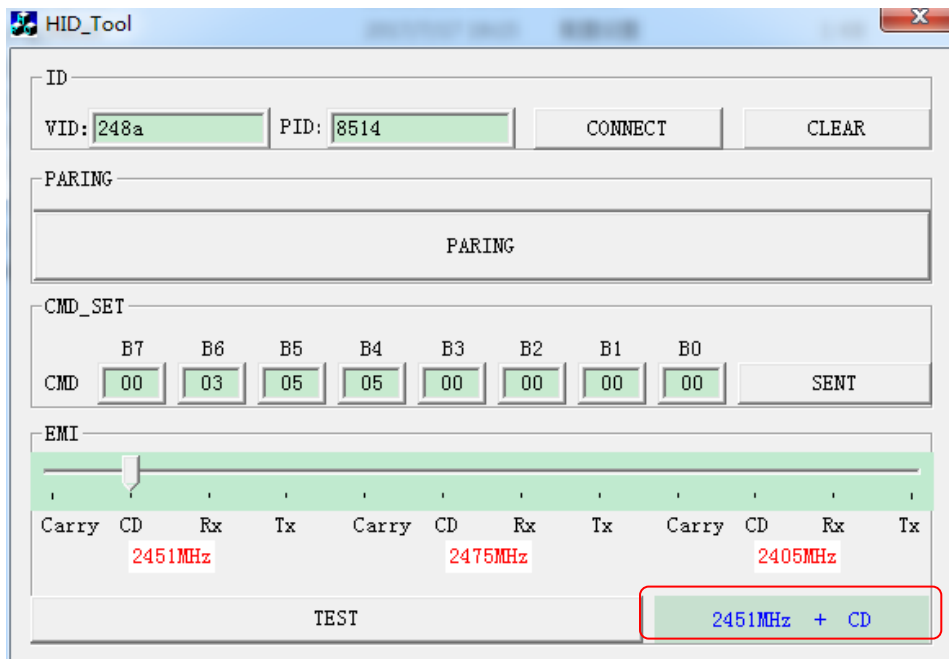

Figure 4- 2 Current test mode and frequency point indication
As shown in Figure 4- 2, current test mode and frequency point are “CD” and “2451MHz”, respectively.
- 5) After the frequency point and test mode are selected, click the “TEST” button to start testing, as shown in mark 5 of Figure 4- 1.